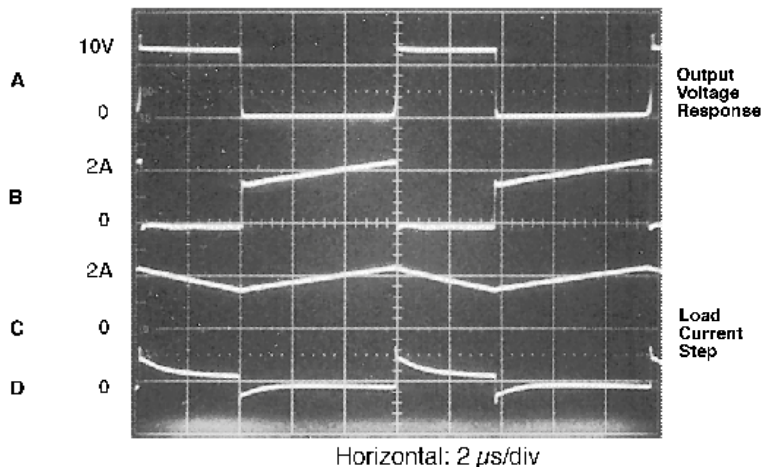

**Figure 46. 12V Boost Regulator**
Figure 46 shows the LM2586 used as a step-up (boost) regulator. This is a switching regulator that produces an output voltage greater than the input supply voltage.
A brief explanation of how the LM2586 Boost Regulator works is as follows (refer to Figure 46). When the NPN switch turns on, the inductor current ramps up at the rate of  $V_{IN}/L$ , storing energy in the inductor. When the switch turns off, the lower end of the inductor flies above  $V_{IN}$ , discharging its current through diode (D) into the output capacitor ( $C_{OUT}$ ) at a rate of  $(V_{OUT} - V_{IN})/L$ . Thus, energy stored in the inductor during the switch on time is transferred to the output during the switch off time. The output voltage is controlled by adjusting the peak switch current, as described in Flyback Regulator.
By adding a small number of external components (as shown in Figure 46), the LM2586 can be used to produce a regulated output voltage that is greater than the applied input voltage. The switching waveforms observed during the operation of this circuit are shown in Figure 47. Typical performance of this regulator is shown in Figure 48.